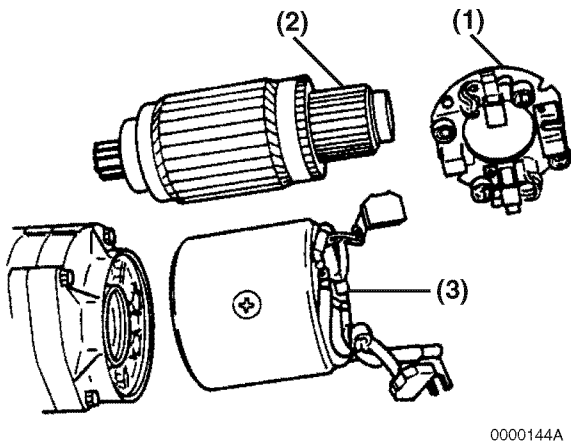

Figure 10-31
8. Reinstall the plate onto the intermediate housing and carefully reinstall the armature assembly (**Figure 10-31, (2)**) into the pinion shaft assembly.
9. Reinstall the field assembly (**Figure 10-31, (3)**) over the armature assembly and align to the pinion housing.